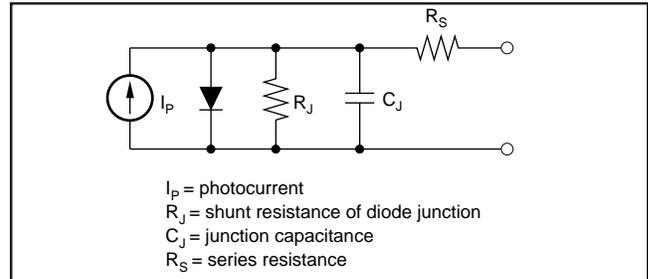

FIGURE 1. Photodiode Equivalent Circuit.
- *Photodiode capacitance should be as low as possible.* See Figure 1: C_J affects not only bandwidth but noise as well. This is because C_J and the op amp's feedback resistor form a noise-gain zero (feedback pole).